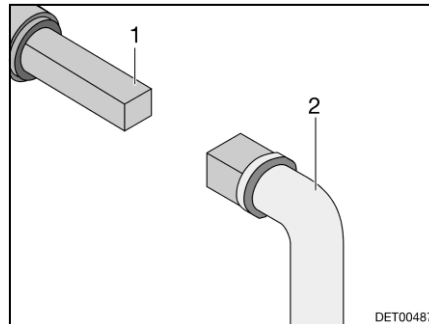

Fig. 65 Operation of the waste water tap
- Place key (Fig. 65,2) onto the square bolt (Fig. 65,1).